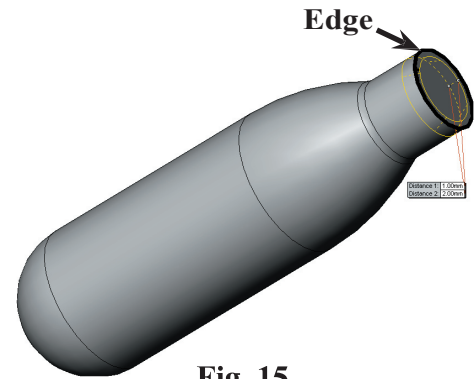
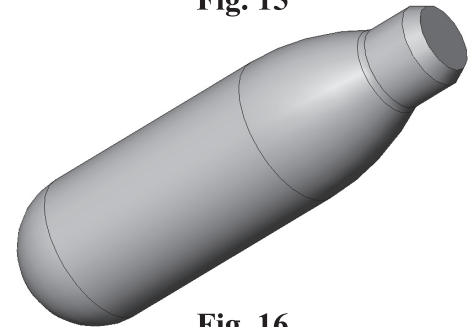

Fig. 15
Fig. 16
Step 1. Hold down middle mouse button (wheel) and drag to **rotate view** as shown in **Fig. 15**.
click the **corner edge**, **Fig. 15** and click OK  in the Property Manager, **Fig. 16**.